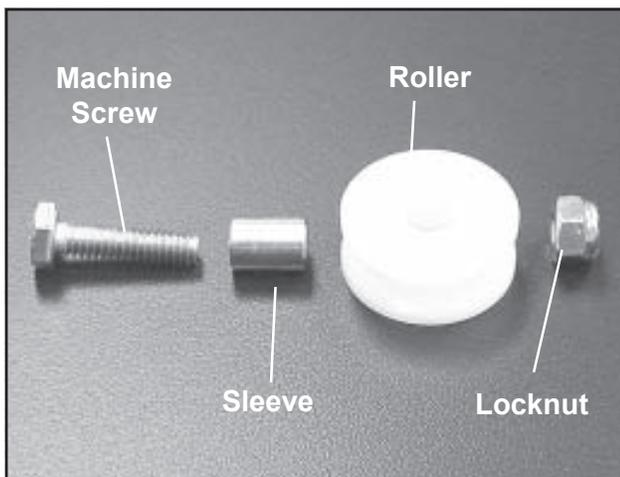

Figure 36. Roller and Sleeve
5. Install the sleeve into the new roller (Figure 36).